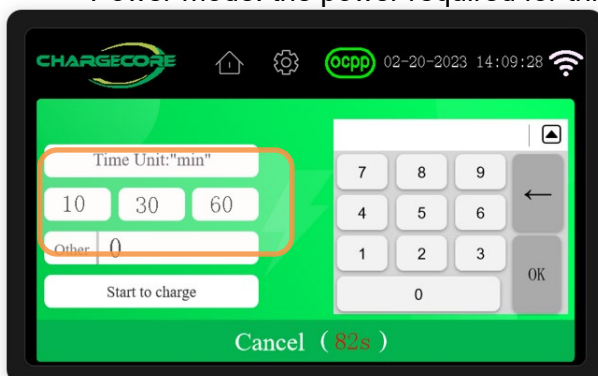

Figure 45. Time mode: the required charging time for this time
a. Enter the percentage of electricity required for this vehicle (%) / the required charging time for this time (min) / the required electricity for this charging (kwh) (as shown in Figure 45)